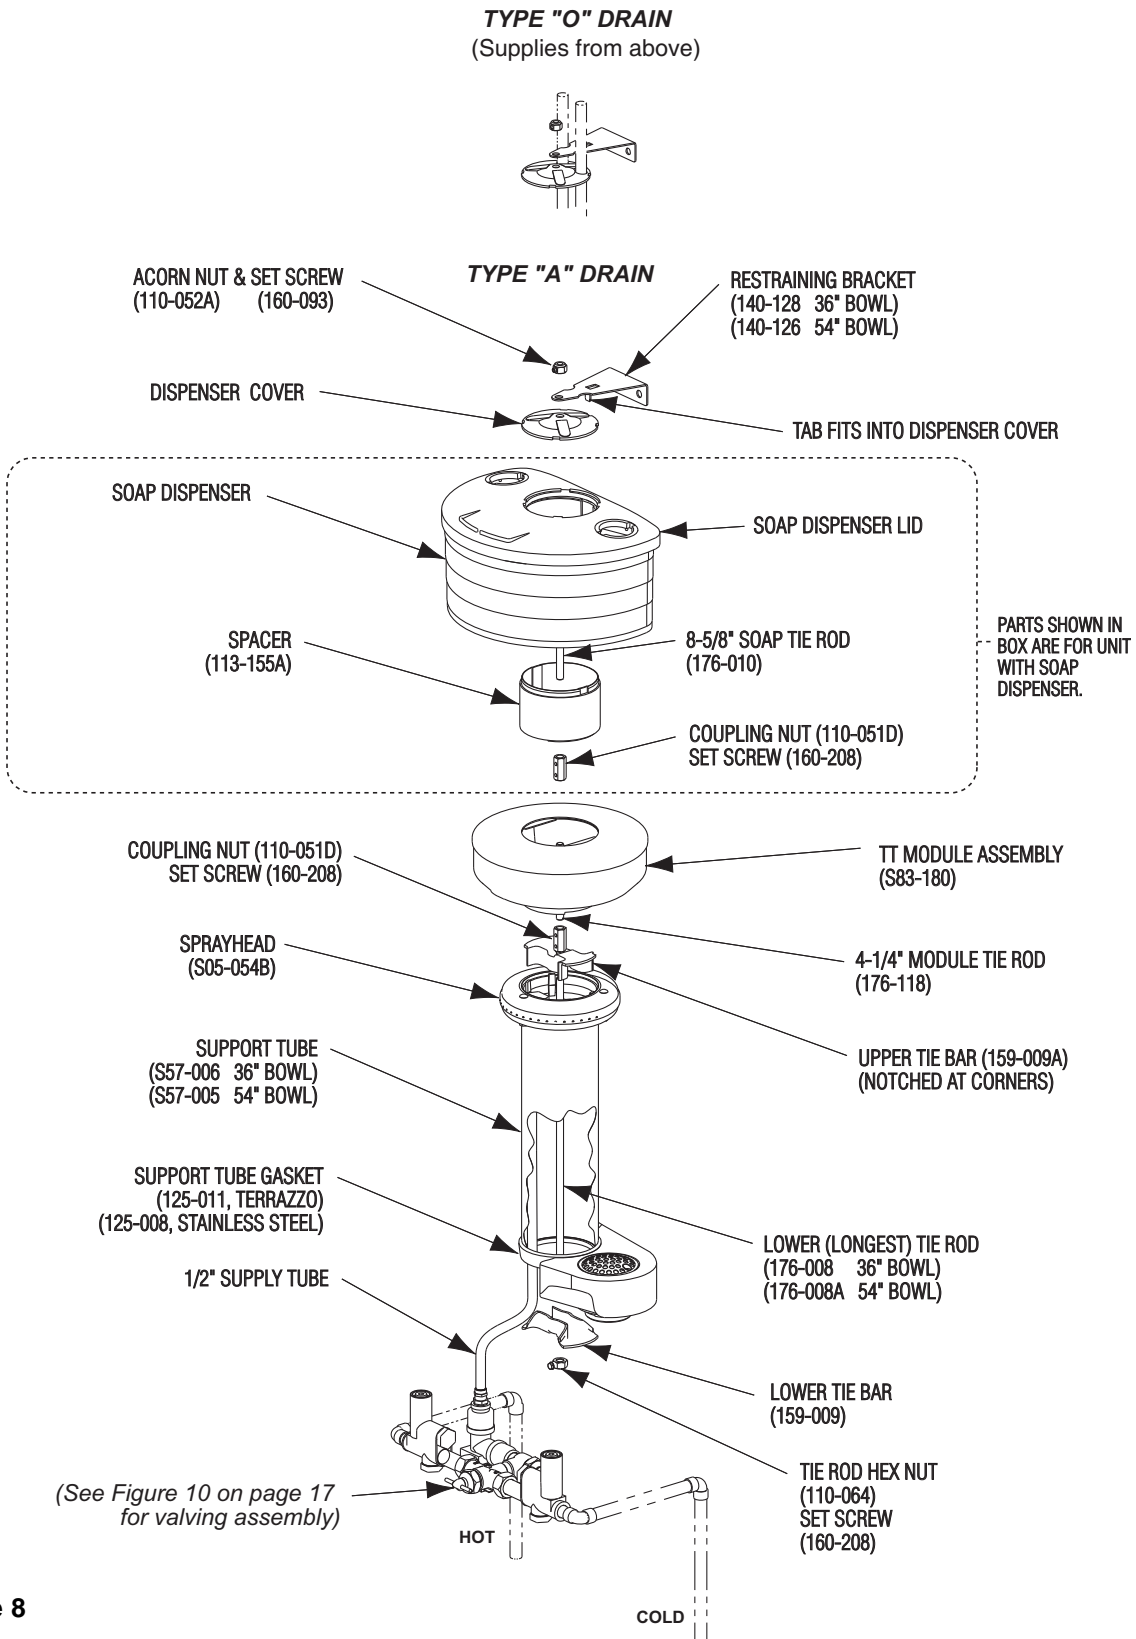

Figure 8
1. Install hemmed end (not sharp end) of support tube (welded seam toward wall) with gasket onto bowl as shown in Figure 8 on page 14.
3. Place sprayhead with 1/2" tubing onto support tube as shown in Figure 8. Run tubing down through support tube. *Make sure spray holes point away from the wall.*
4. Assemble the lower tie rod (the longer threaded rod), upper tie bar (notched at corners), lower tie bar, tie rod nut, and coupling nut, then attach the 4-1/4" tie rod to coupling nut as shown in Figure 8. Upper tie bar must be parallel to wall.
- 7a. **FOR UNITS WITH SOAP OPTION:** Install the spacer, soap dispenser and dispenser cover and restraining bracket using the coupling nut, third tie rod (8-5/8" long) and second coupling nut as shown in Figure 8. Secure with acorn nut and socket head set screw. The tab on the restraining bracket should fit in a notch in the dispenser cover (see Figure 8).
- 7b. **FOR UNITS WITHOUT SOAP OPTION:** Secure module cover and dispenser cover and restraining bracket with acorn nut and socket head set screw. The tab on the restraining bracket should fit in a notch in the dispenser cover (see Figure 8).